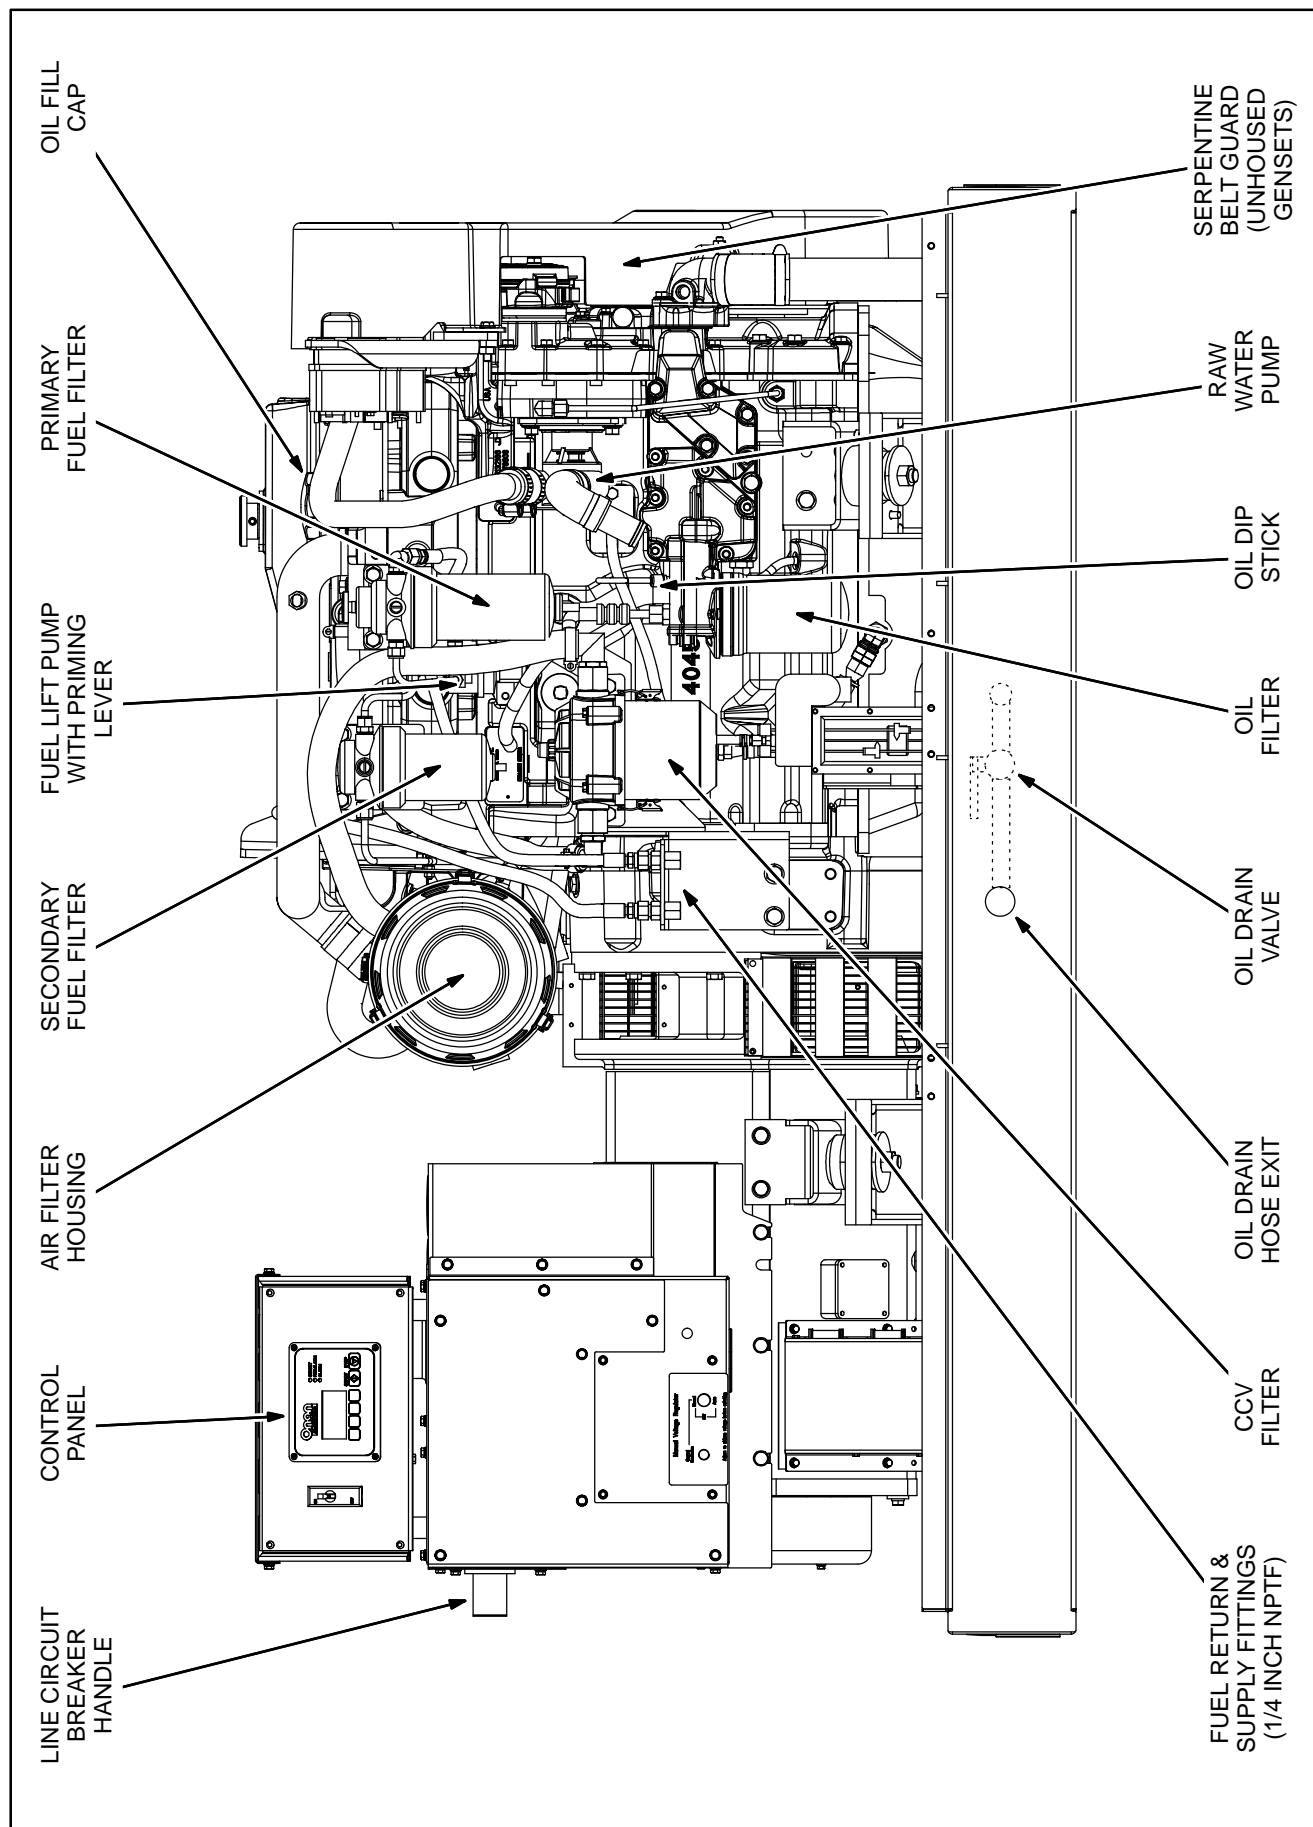

FIGURE 4-1. TYPICAL SERVICE SIDE (4-CYLINDER MODEL—REPRESENTATIVE ALSO OF 6-CYLINDER MODELS)
Periodic maintenance is essential for top performance and long genset life. Use Table 4-1 as a guide for normal periodic maintenance. Figures 4-1 and 4-2 illustrate the service points.
2. Have a suitable container ready and open the drain valve (Figure 4-1). Follow the instructions for an oil pump-out system if provided.